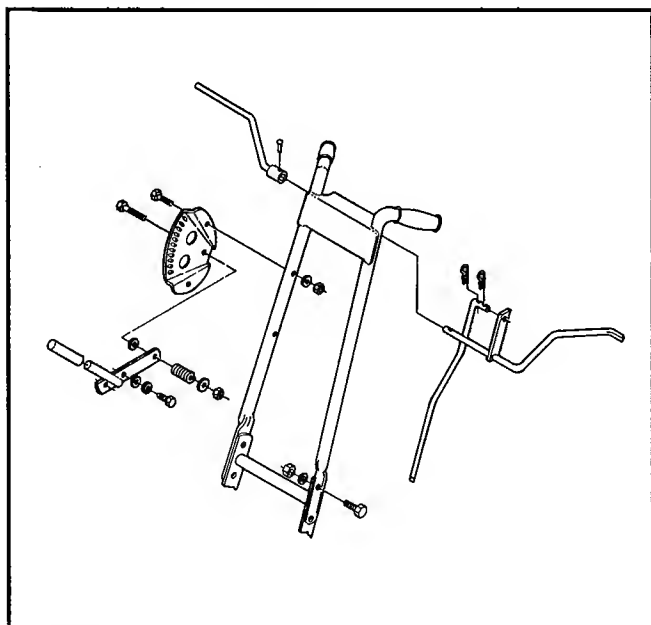
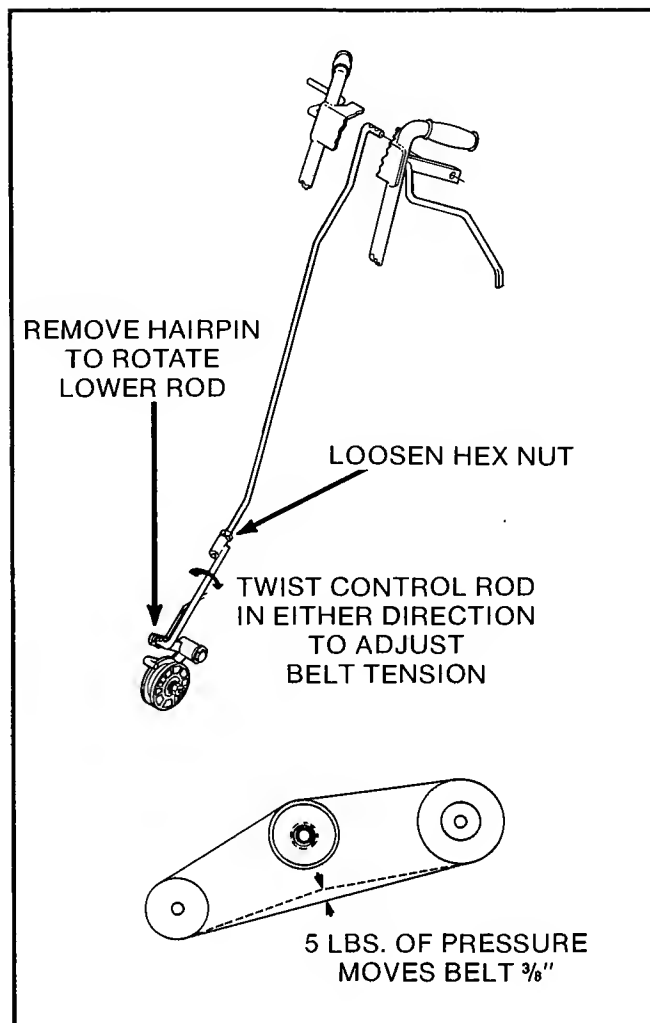

Figure 3
Figure 4
1. Install upper handle assembly with bolts as shown in Figure 3 using (4) 5/16-18 x 1, (4) 5/16 lockwashers and (4) 5/16 hex nuts.
2. Attach height adjustment index to upper handle assembly using (2) 5/16-18 x 1-1/2" hex head bolts, (2) 5/16 flat washers, and (2) 5/16-18 elastic stop nuts.
3. Install tube-type control rod on right hand side between front wheel height lever and index quadrant using (4) hair pin cotter to secure it.
4. Install operator presence safety control rod with the long rod at the top and the short rod at the idler pulley arm using hair pin cotter. Adjust length of rod for normal tension of belt. (See Figure 4) Fill engine with oil as described under Operating Instructions. Lubricate all grease fittings with lithium based grease.